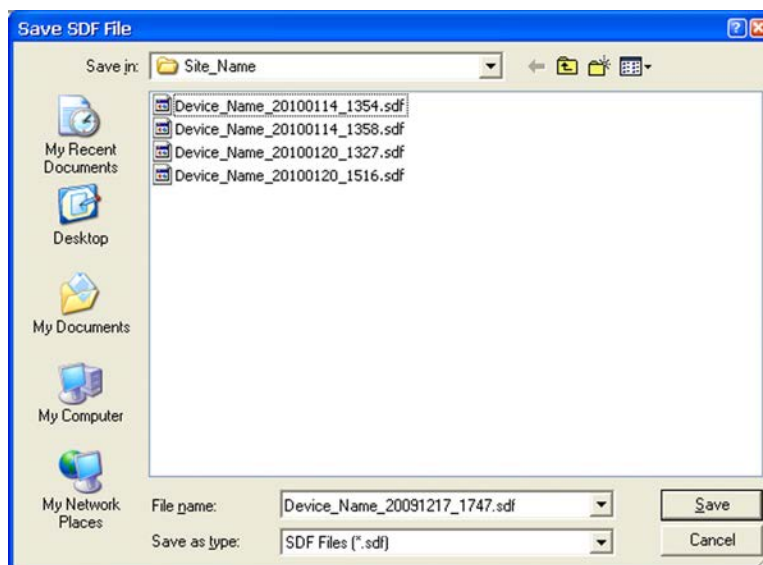

Figure 14.24
3. The Save SDF File dialog will appear (Figure 14.24). To change the file path and/or file name from the defaults listed below, browse to the desired file path and/or type the desired entry in the field provided. See Log Directory and Filenames, page A-16 for more information.